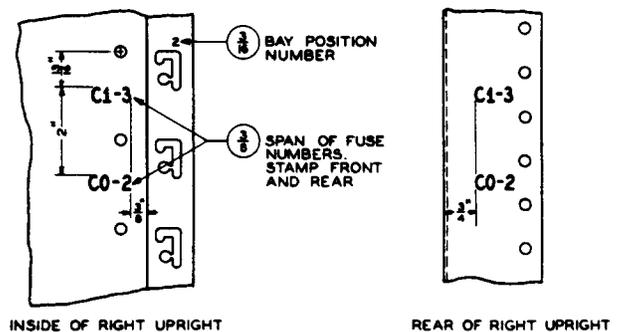

Fig. 22 – Span of Fuse Numbers on Frame Uprights of Box-type Frames
2.34 *Span of fuse numbers associated with circuit numbers* shall be stamped in accordance with Fig. 22.